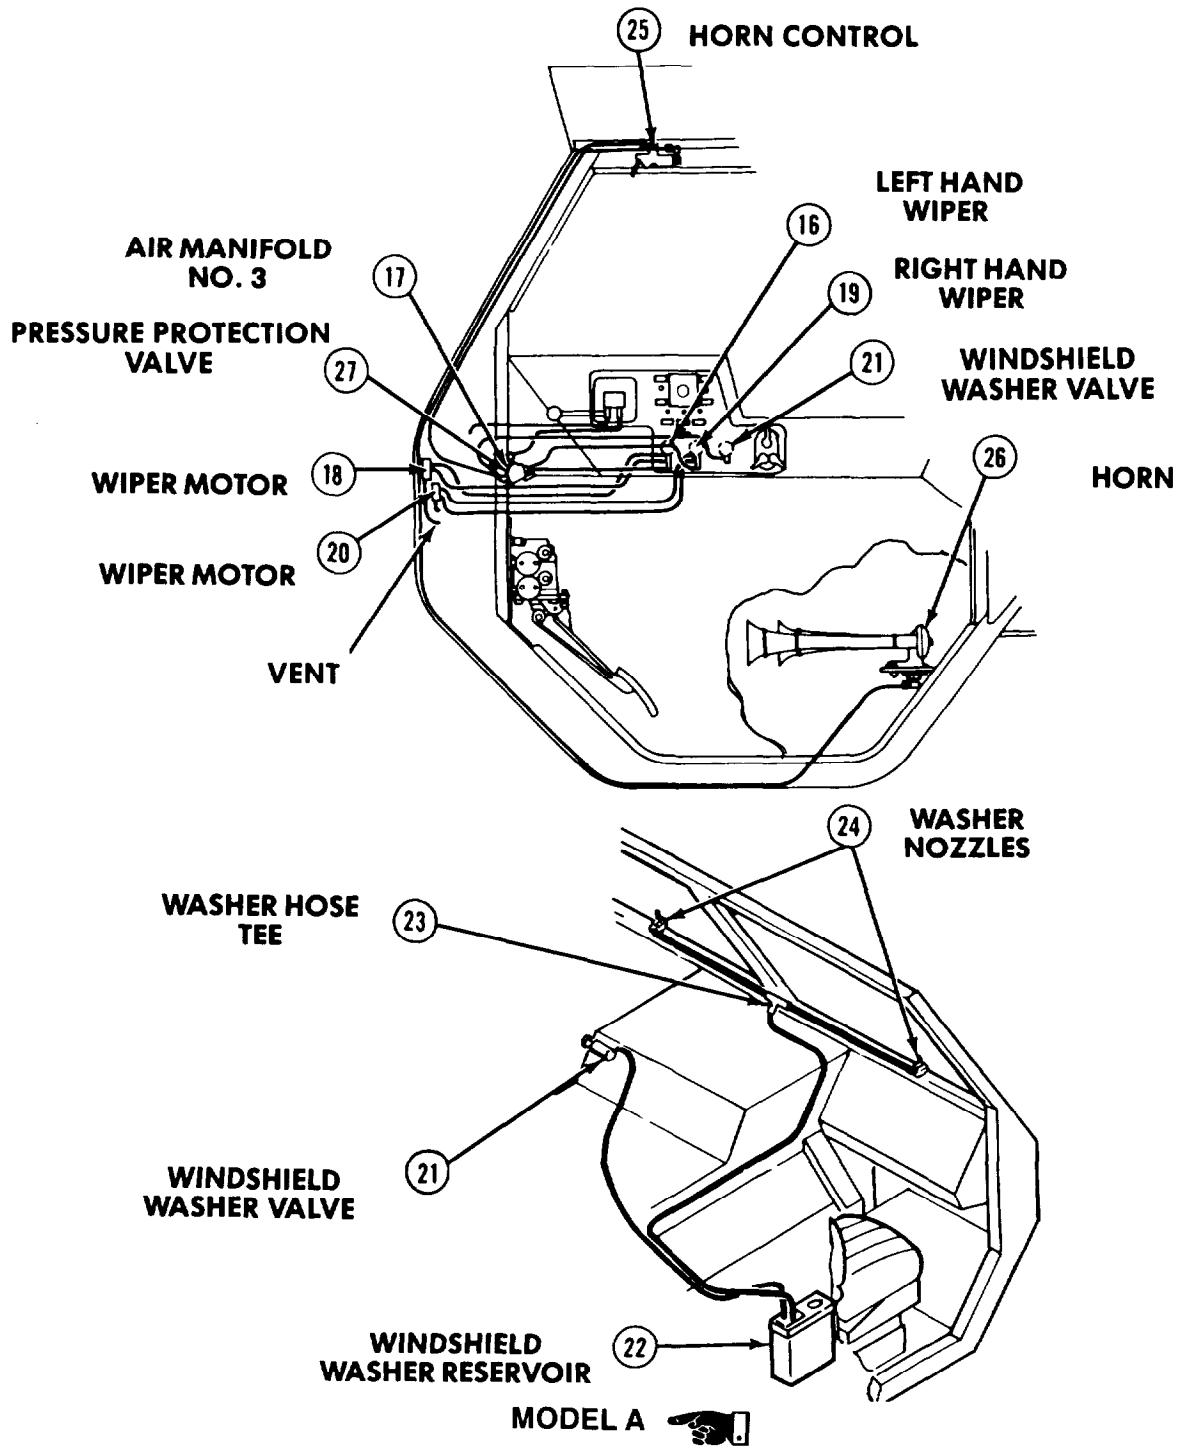

Figure 11-2. Wiper and Air Horn Hoses
| 072 | Hi-Lo Range Valve (40) | Air Manifold No. 4 (14) | Air Manifold No. 3 (17) (Figure 11-2) |